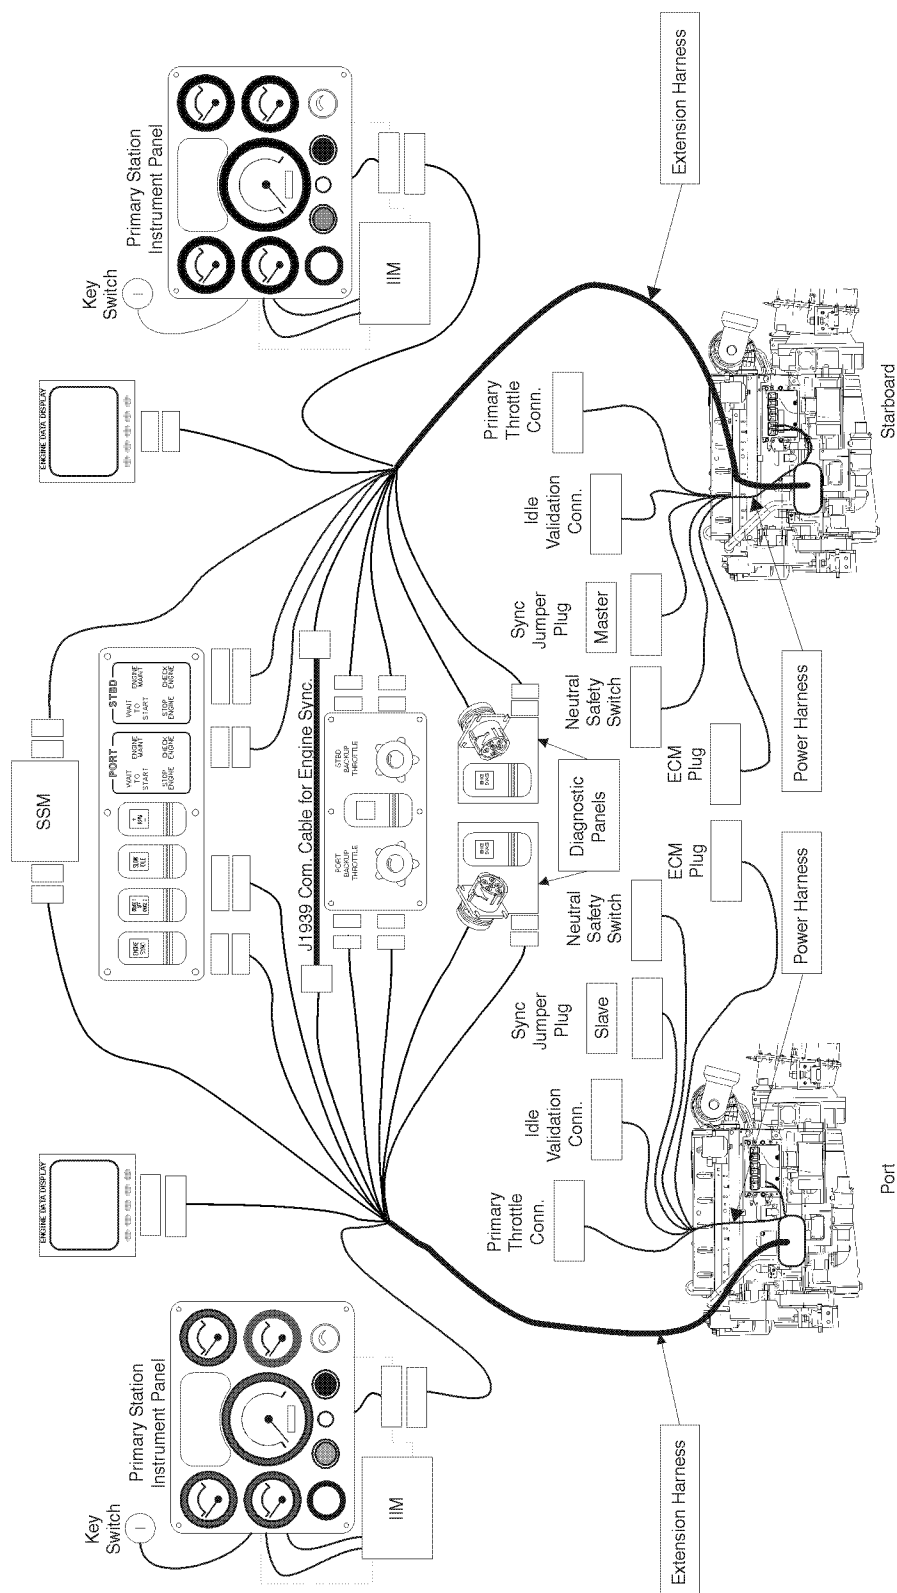

Figure 109: Dual Engine, Single Station Wiring Harness and Connections
The schematic in figure 109 shows a Dual Engine, Single Station wiring and component layout installation.
2. Locate the triangular 3-pin Deutsch plug (see figures 109 and 126) in the port and starboard engine extension harnesses. Remove the termination resistor receptacles from both harnesses and connect the datalink synchronization harness (Cummins P/N 4003624).